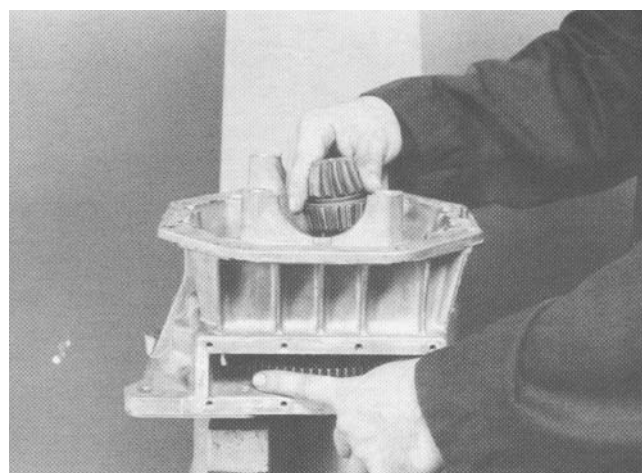

Figure 42
6. Insert the spur gear into the front housing with the chamfered area of the center spline toward the pinion gear. Tap the pinion gear with a soft mallet to engage the splines in the spur gear (Fig. 42).